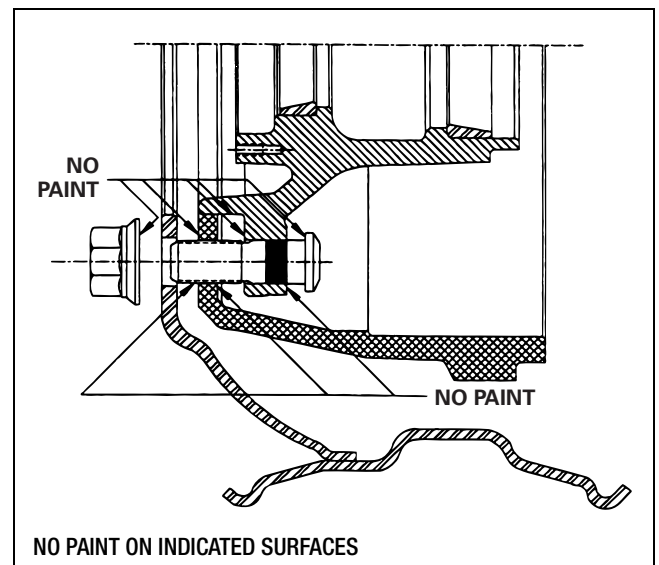

Figure 4.5
9. Check that there is no paint on the mounting surfaces of the hub, brake drum, studs or nuts. Figure 4.5.